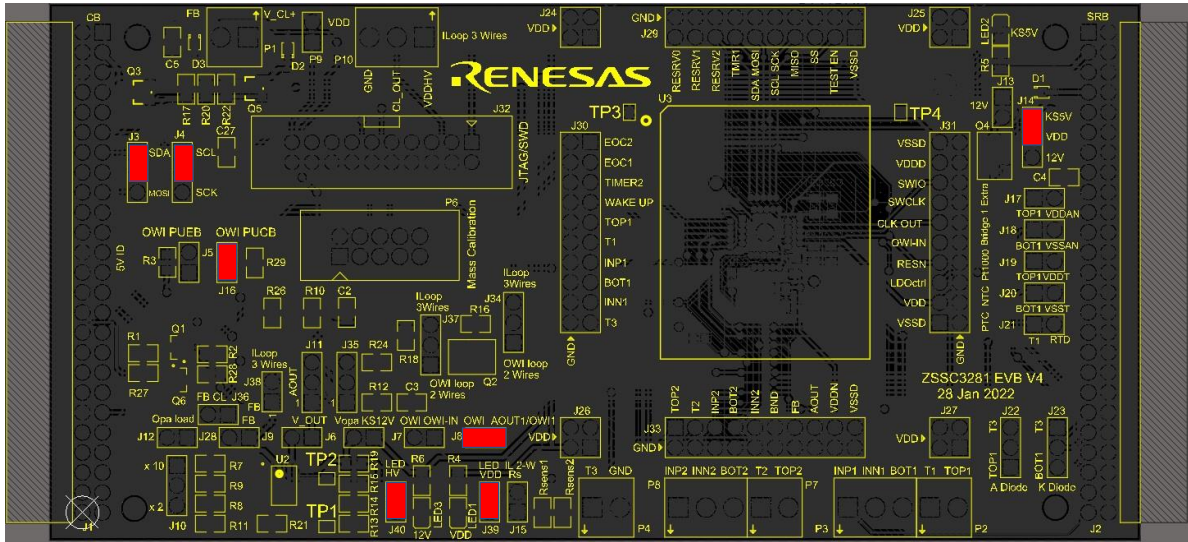
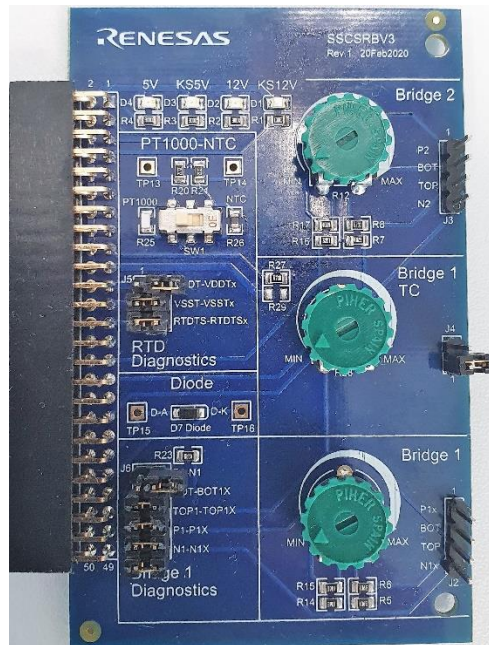

Figure 3. ZSSC3281 Evaluation Board V4 – Top View with default Jumpers in place
Figure 4. Sensor Replacement Board V3.1
3. Replace the dummy IC in the socket with a ZSSC3281 device under test (DUT). Take care to place the pin 1 as shown on Figure 3 (dot on the silkscreen close to TP3).
Default jumpers positions on EVB and SRB are visible in Figure 3 (J3-J4 -J14-J39-J40) and Figure 4 (J5-J6-SW1) respectively.